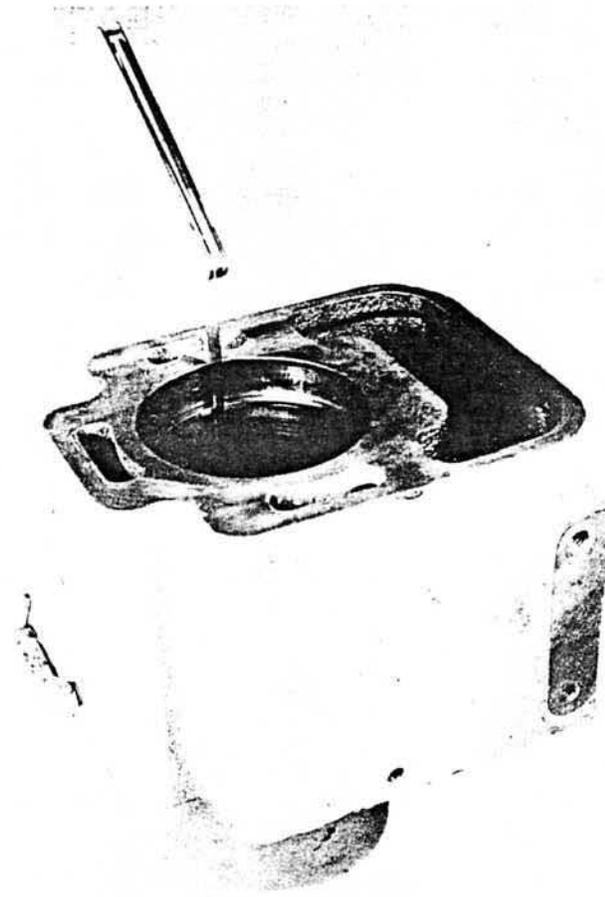

Fig. 23. Checking piston ring gap.
2. Fit the new piston rings in the cylinder bore. Push the rings down with the piston. Measure the end clearance with a feeler gauge. See Fig. 23.